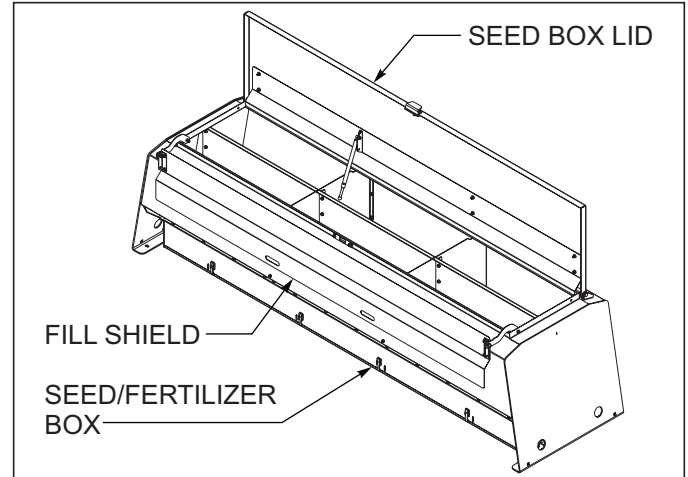

Figure 4-22: Both Compartments Filled w/ Seed
- When both compartments are being used for seed, open seed box lids and lift and rotate the fill shield over the rear of the seed box. This allows the compartments to be filled at the same time. This also improves access for maintenance and cleaning **See Figure 4-22.**